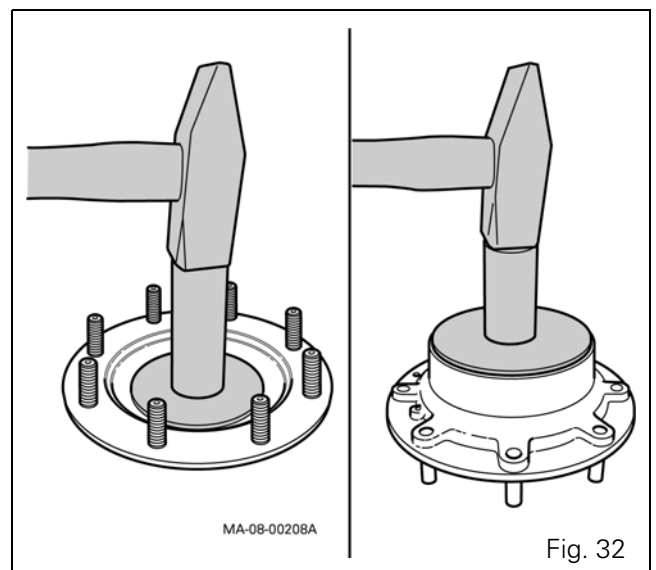

Fig. 32
- 31.** Place the wheel hub on a workbench and install the two tapered roller bearing cups using special tool ref. CA715026 (see § K) and a press or hammer (Fig. 32). Insert the lip seal into the wheel hub using special tool ref. CA119143 (see § K) and a hammer.